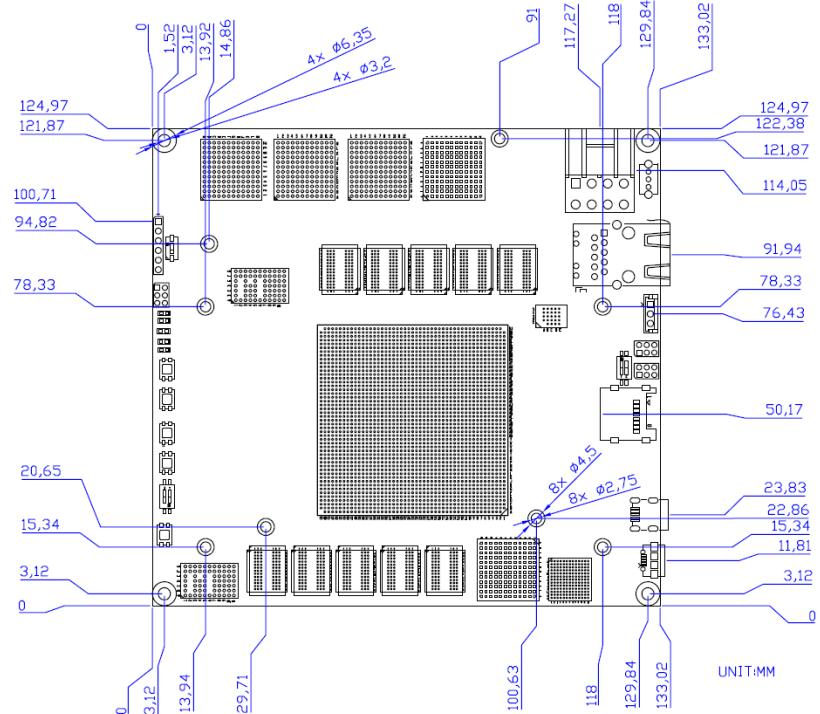
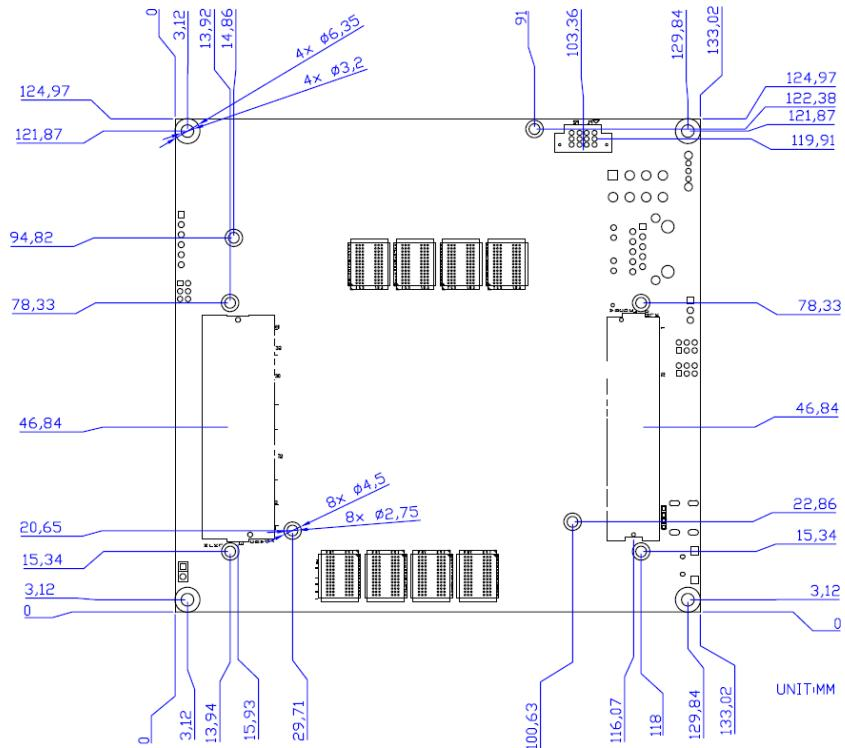

Figure 1-5 Top side mechanical layout
Figure 1-6 Bottom side mechanical layout
**Figure 1-5** and **Figure 1-6** are the top and bottom Mechanical Layout of Apollo S10 board. The unit of the Mechanical Layout is millimeter (mm).